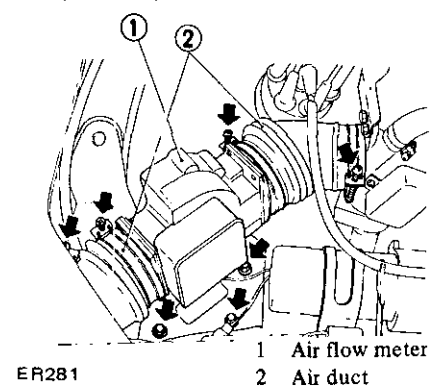

Fig. ER-3 Removing air flow meter
6. Remove air flow meter. See Figure ER-3.
7. Remove air duct clamps (rubber hose). See Figure ER-3.